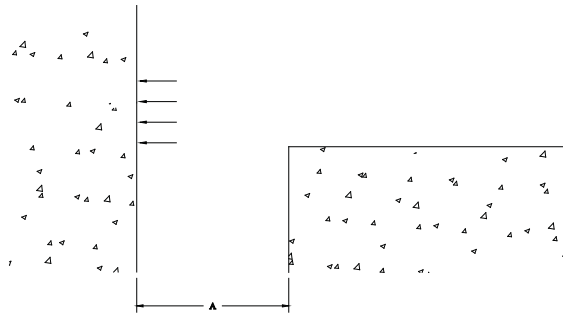

Figure 2
**STEP 2.** Select the mastic (by others) for water barrier installation. Spread the mastic on the substrate on the area of the corner wall surface onto which the water barrier will be installed and onto which the joint cover wall base member will be affixed, see Figure 2. Refer to the project details and the shop drawings to determine the placement and the width of the mastic.